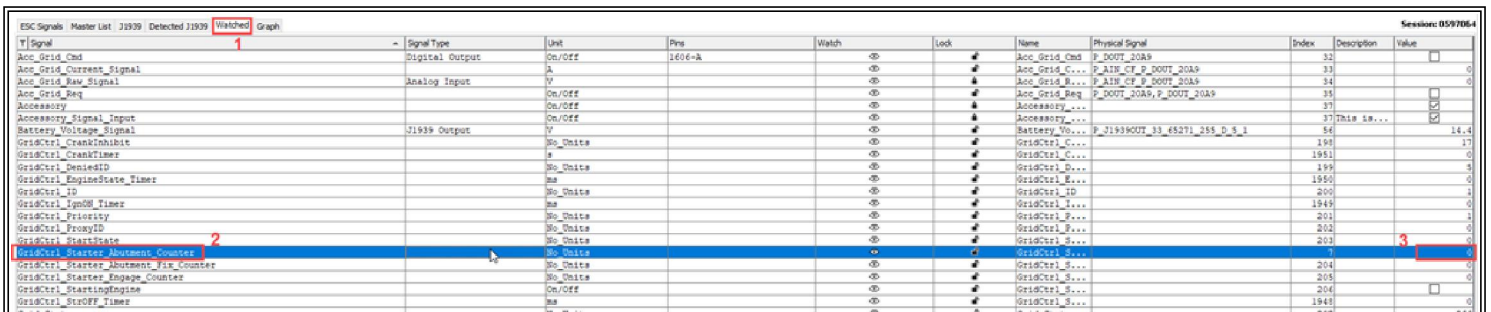

Figure 2: Abutment signal
3. In the "Watched" tab (Figure 2, Item 1) select the signal named GridCtrl\_Starter\_Abutment\_Counter
4. Attempt to crank the engine. If the starter kicks out and the value of GridCtrl\_Starter\_Abutment\_Counter (Figure 2, Item 2) goes up then the abutment feature is causing the starter to kick out. Proceed to the repair steps below.